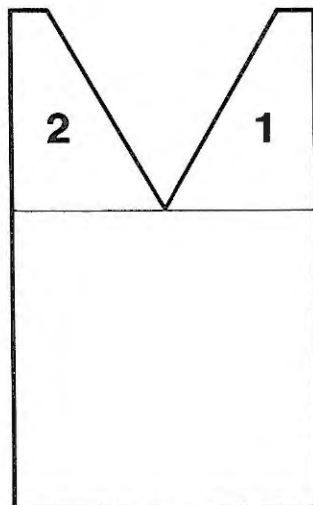

Fig. 125
Here the test square is divided and you knit first the right side (1) and then the left side (2), using pushers and Automatic Pattern Device. Fig. 125